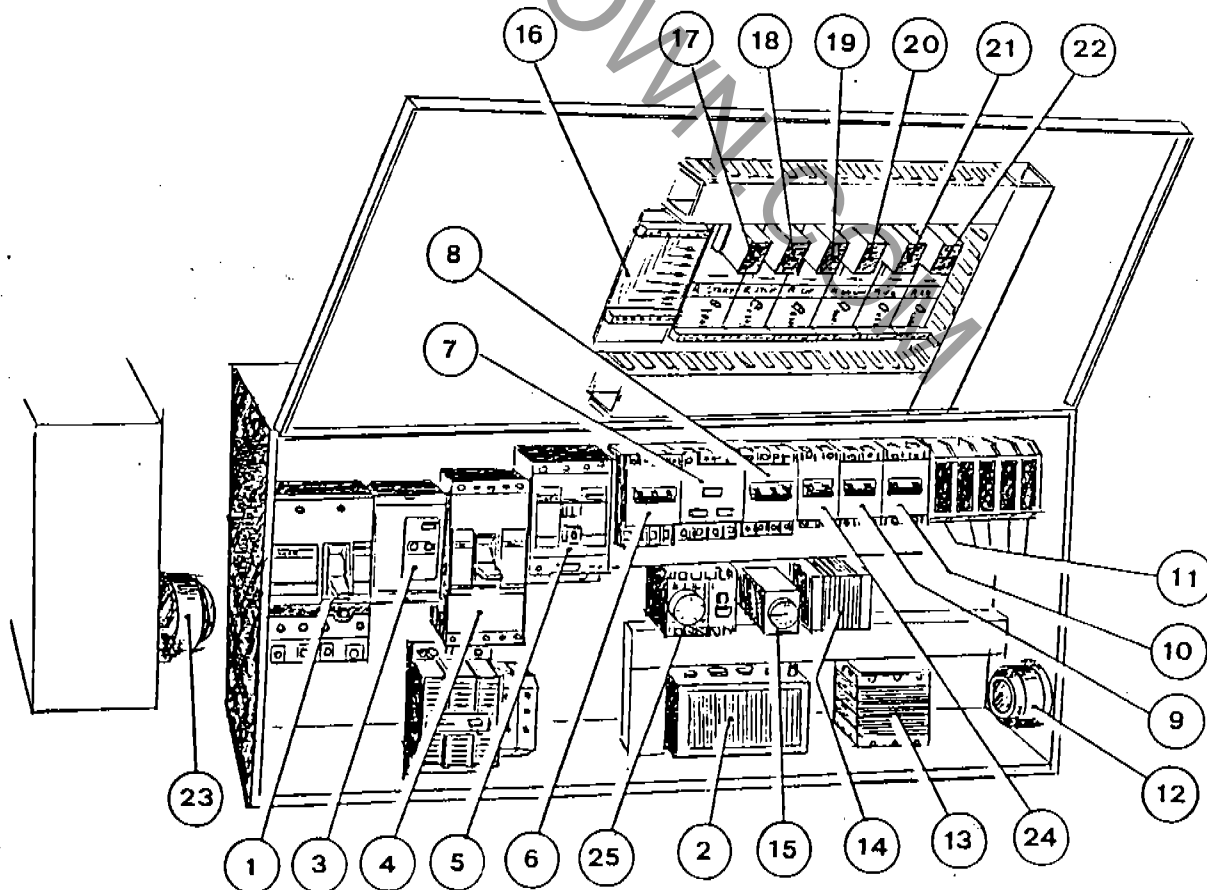
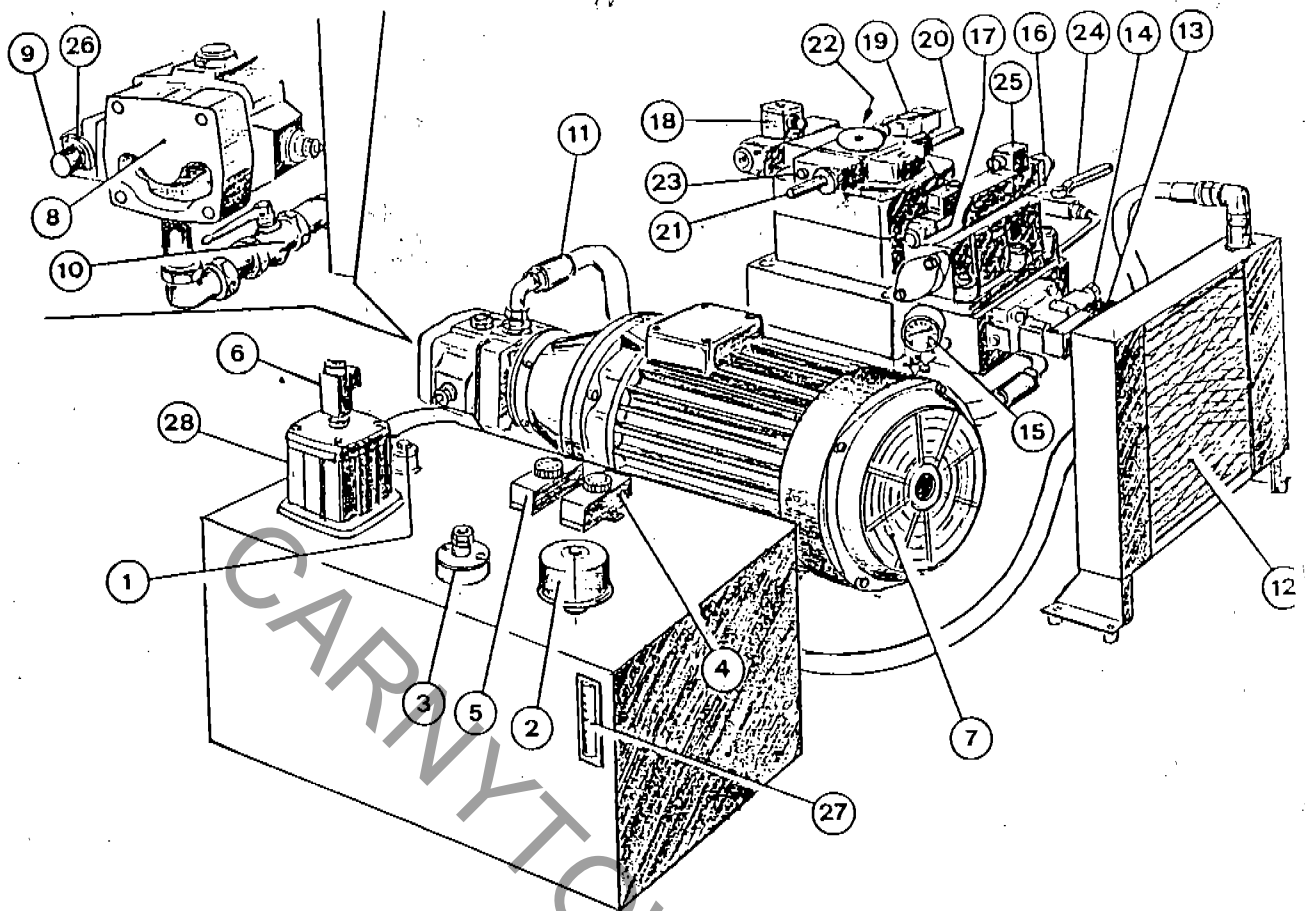

Fig. 10
Fig. 12
Delay unit (25-Fig. 10) established the time period during which the emergency batteries operate in the event of power failure; this allows the attraction to be lowered within the set time by pressing DOWN pushbutton rather than operating the manual cock (24-Fig. 12). Delay time should be set according to this requirement.
Il temporizzatore (15-Fig. 10) serve per sollevare la giostra, nel ciclo automatico, con un ritardo rispetto allo start.
Il ritardatore (25-Fig. 10) imposta il tempo nel quale le batterie d'emergenza restano in funzione in caso di mancanza di alimentazione; permette entro il tempo impostato di far scendere la giostra premendo il pulsante DOWN anzichè agire con il rubinetto manuale (24-Fig. 12).
HYDRAULIC SYSTEM (Fig. 12)
IMPIANTO IDRAULICO (Fig. 12)
Pressure control valve adjustment (14-Fig. 12). The optimal setting of this valve is 140 bar. At any rate, it suffices that the setting pressure is slightly higher than the pump pressure.
Adjust as follows: with electrovalve (13-Fig. 12) manually activated, turn the adjust screw CCW until pressure decreases (as read on gauge (15-Fig. 12)). Turn then CW until reading the pump pressure plus one screw turn.
- a) Adjustment of lift and lowering speeds. The maximum values of the lift and lowering speeds are adjusted by means of the adjust screw below the hexagon sleeve (21-Fig. 12): screw it to decrease speed, unscrew it to increase speed.